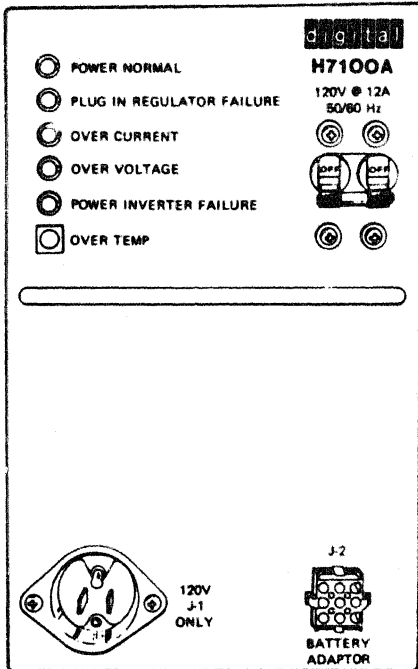

Figure 2-7 H7100 Power Supply (Front View)
3. Locate and connect the female end of the power cable into J1 on the front of the power supply (Figure 2-7).